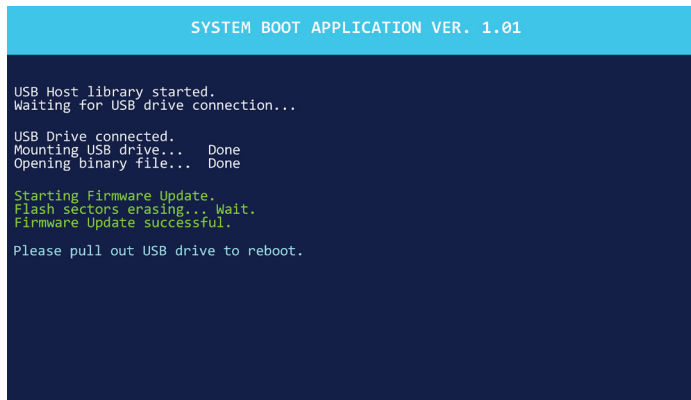

fig.25
12.3.3 Firmware Update: The key is normally not clickable and grey-coloured. When the firmware file on the USB stick is recognized, the key becomes light blue and can be clickable. A warning pop-up asks the user for confirmation of the operation. The refrigerator cabinet automatically reboots: do not carry out any operation during the reboot! Wait for the acoustic and visual signals that tell the user to remove the USB stick to complete the process!! (fig.25)